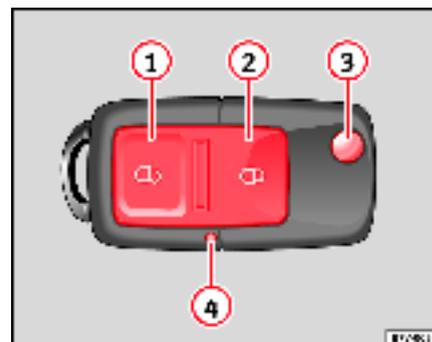

Fig. 61 Assignment of buttons on the remote control key
When the key is turned *once* in the driver's door lock, in the direction of opening, or when button ⇒ page 95, fig. 61  on the remote control key is pressed, only the driver's door will unlock.
- Press button  ⇒ fig. 61 ① on remote control to unlock all the doors and tailgate.
- Press button  ② on remote control to lock all the doors and tailgate.
When either of these buttons is pressed, the battery indicator lamp on the key ⇒ fig. 61 ④ lights up.
Using button ⇒ fig. 61 ③ on the control, the key shaft is released.
- Briefly press the open button  ⇒ page 95, fig. 61  once.
The vehicle can no longer be opened and closed with the remote control if you press button  ⇒ page 95, fig. 61  a long way outside the effective range of the radio wave remote control. The remote control key will have to be re-synchronised.
If the battery indicator on the remote control ⇒ page 95, fig. 61  does not flash when the buttons are pushed, the battery must be replaced. ►
- Press button ⇒ page 95, fig. 61  to fold out the key bit.